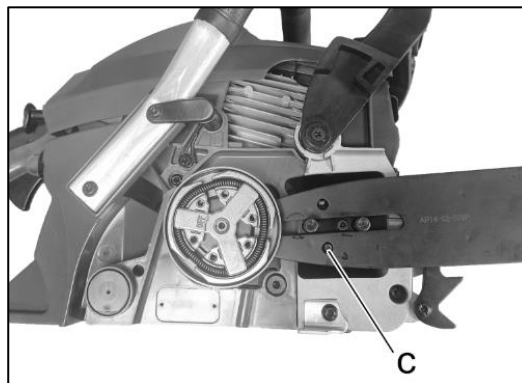

Fig.8
- 2) Place the guide bar behind the clutch, make sure the hole in the guide bar over the tensioning pin (c). (Fig.8)